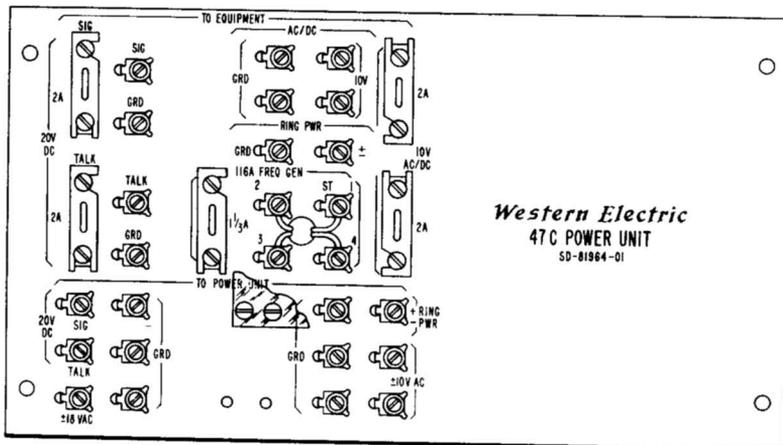

Fig. 3—Wiring Connections for 47C Power Unit
- 3.01 Charge the battery locally for 16 hours before installation. Install the battery in the 47C power unit and connect to a 19-, 20-, 29- or 30-type power unit (KSU Power Supply). See Fig. 3.
4.04 Connect the pigtail leads from the 116A Frequency Generator to terminals on the front panel (see Fig. 3) as follows: